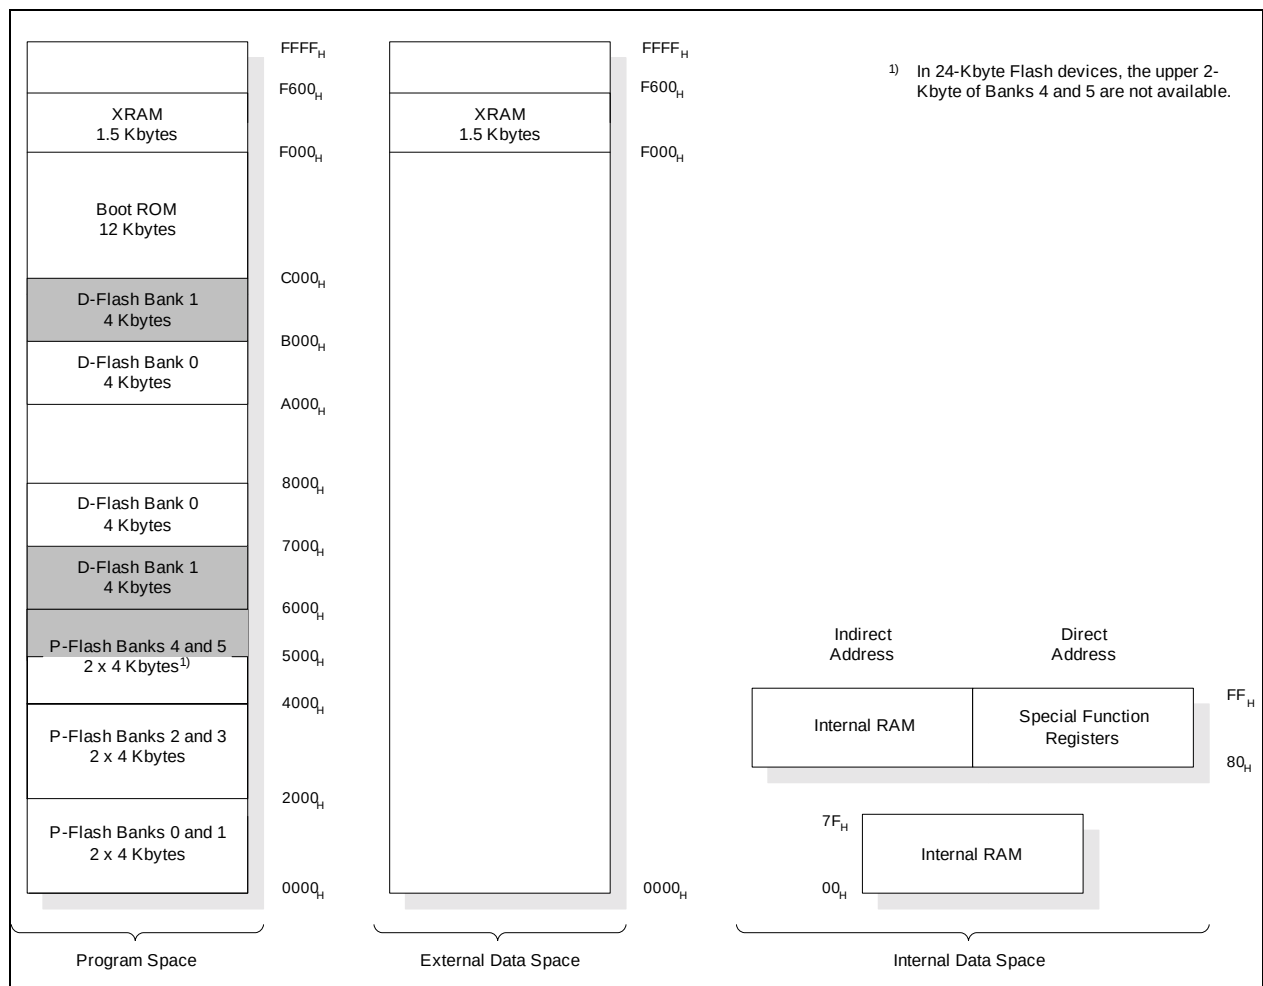

**Figure 6 Memory Map of SAL-XC886 Flash Device**
**Figure 6** illustrates the memory address spaces of the 32-Kbyte Flash devices. For the 24-Kbyte Flash devices, the shaded banks are not available.